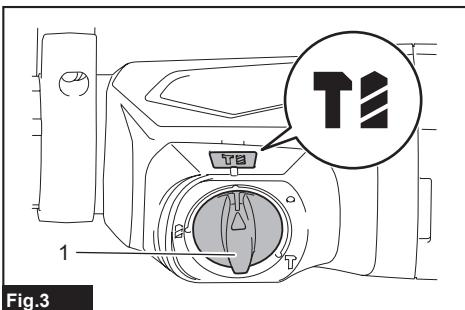

Fig.3
► Fig.3: 1. Action mode changing knob